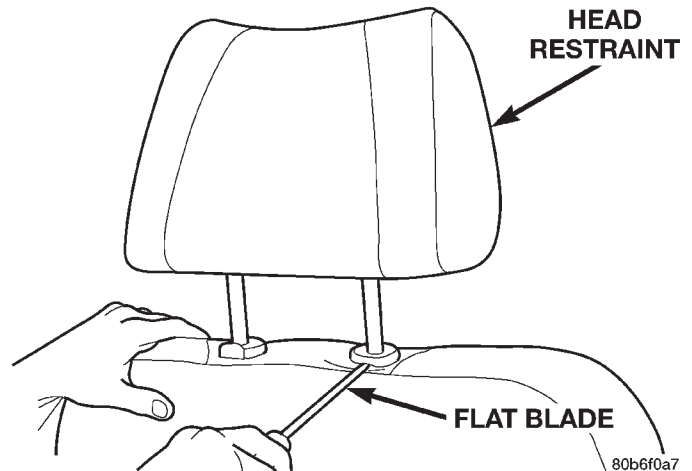

Fig. 4 Head Restraint
- (1) Depress head restraint release button and lift head restraint to full up position.
- (2) Using a small flat blade, depress tab on right side head restraint release button and using your hand, simultaneously press tab on left side head restraint release button (Fig. 4) and pull head restraint up to separate from seat back.